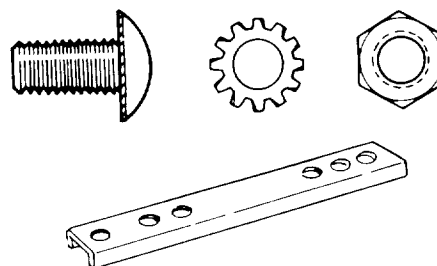

Fig. 22 - Bolt, External Lockwasher, Hex Nut, U-Channel
3. Use *truss head bolts*, *lockwashers*, and *nuts* (see Fig. 22) to mount the two *rear legs* to the *basic saw assembly*. Make sure that the four holes in each corner of the *saw line* up with four holes in the top of each *leg*. Finger tighten nuts at this time.